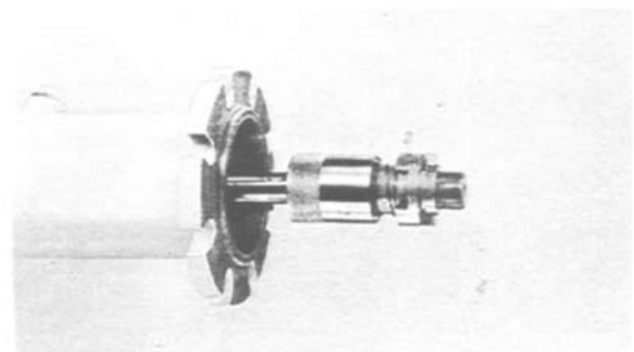

FIGURE 29
8. Attach plug alignment tool to inserting bar. **Figure 29**.